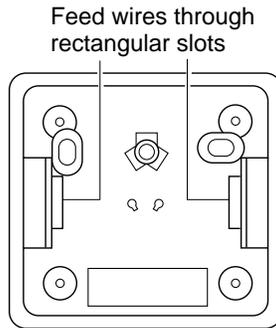

Figure 45 - Back View of Thermostat Base
- Feed the electrical wires through the rectangular slots (from the back) on each side of the base (see Figure 45).